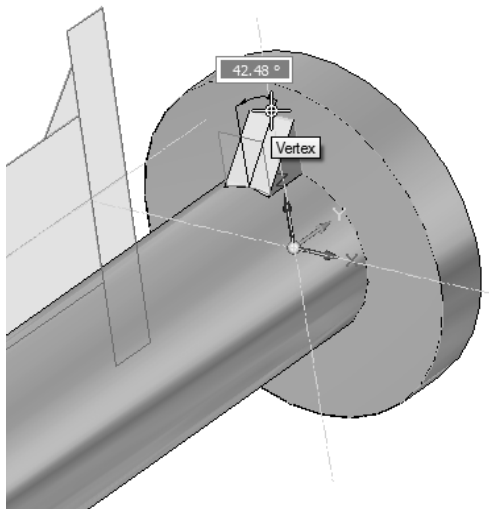

Figure 12-54 Rotating the face for creating rib
4. Click on the torus of the wheel such that the back face rotates inward and snaps to the midpoint of the front face of the rib, as shown in Figure 12-54.